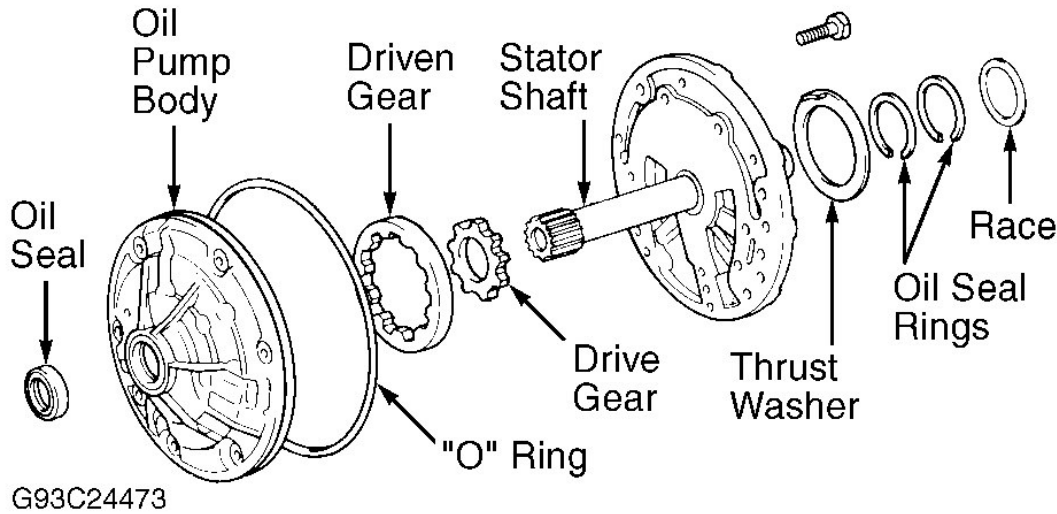

Fig. 14: Exploded View Of Oil Pump Assembly
2. Mark stator shaft and pump body for reassembly reference. Remove stator shaft bolts. Separate stator shaft and pump body. Mark gear location for reassembly reference. Remove pump gears. Using screwdriver, remove oil seal. See **Fig. 14**.
2. Install thrust washer on pump body. Align washer tab with hollow of pump body. Install oil seal rings. Ensure rings rotate smoothly after installation. DO NOT spread oil seal ring ends more than necessary for installation. Using screwdrivers, check drive gear for smooth rotation. Install "O" ring. Install race on stator shaft. See **Fig. 14**.